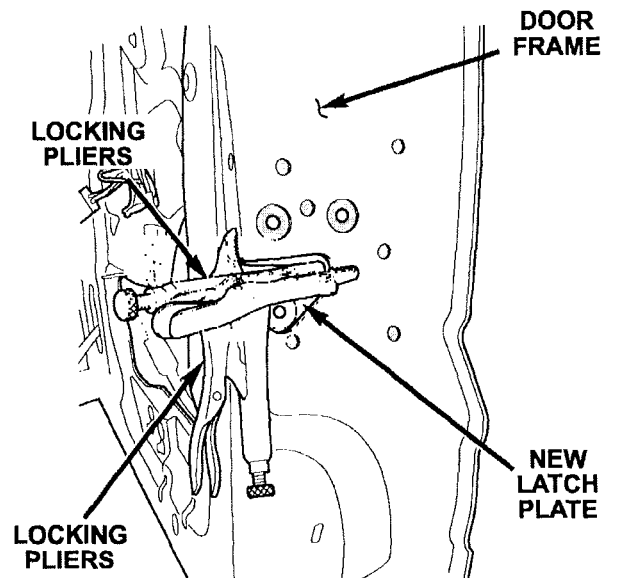

Figure 5
18. Using locking pliers, clamp the new latch reinforcement plate into position on the door frame (Figure 5).